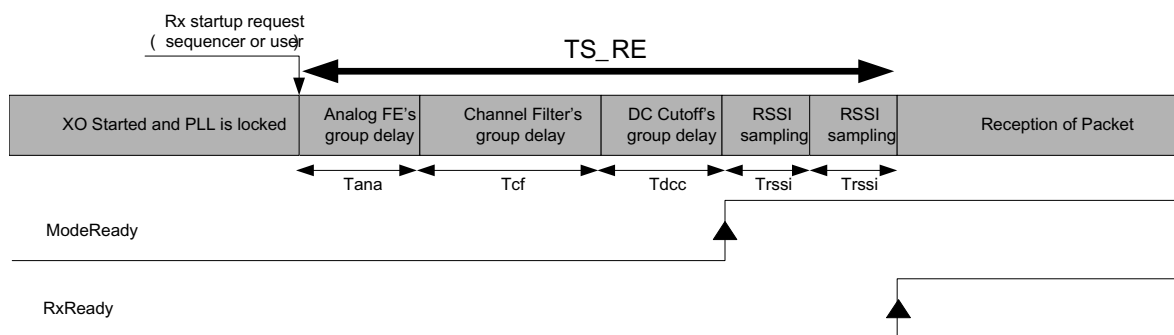

Figure 6-2. RX Startup - No AGC, no AFC
- In Continuous mode - the preamble bits preceding the payload can be applied on the DIO2/DATA pin immediately after any of these interrupts have fired. The DCLK signal, activated on pin DIO1/DCLK can also be used to start toggling the DATA pin, as described on Figure 6-2.